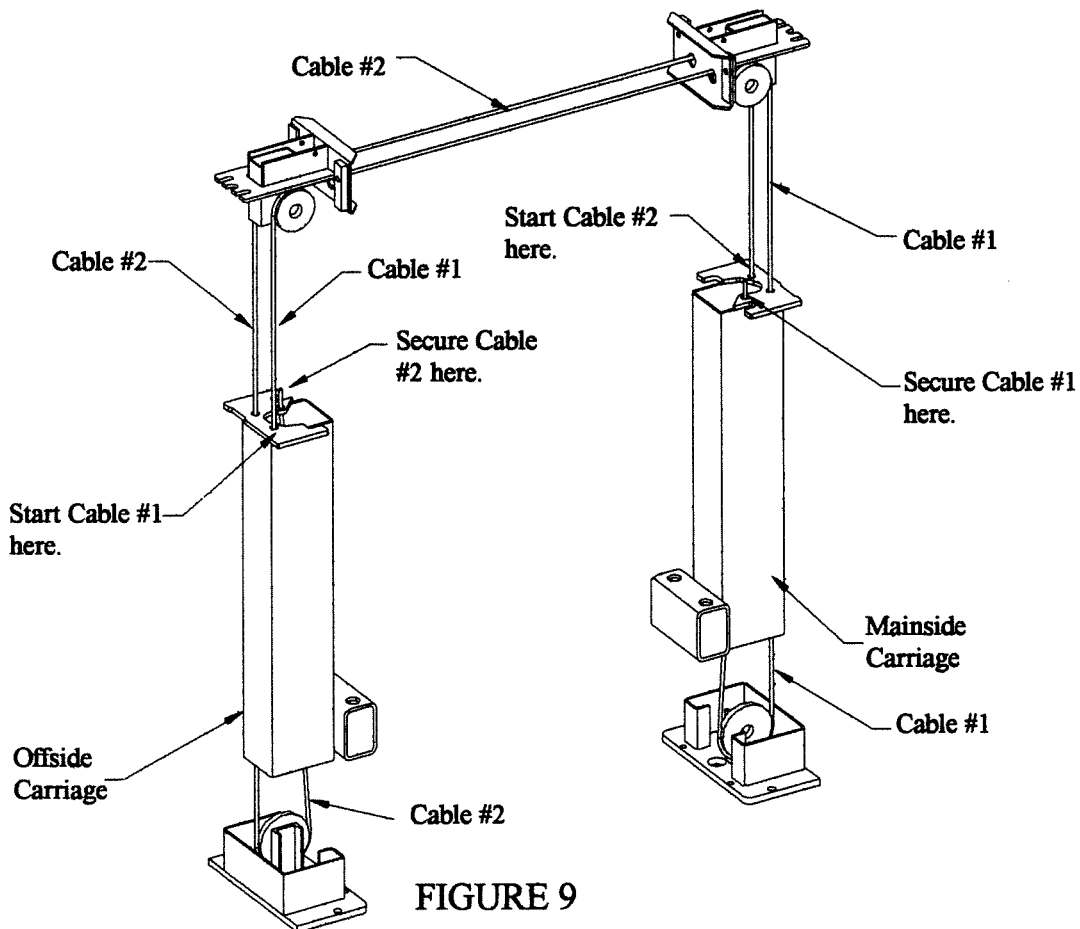

FIGURE 9
16. Refer to Figure 9 for installation of carriage cables. Assemble a 3/4" NF nylon insert nut with a SAE washer onto one end of each cable. Start at the left rear hole at the top of the offside carriage. Thread the cable up through the hole in the carriage top, up to the overhead pulley, across to the other overhead pulley on the mainside through the holes in the cylinder mount weldment, down through the right rear hole in the carriage top, around the pulley in the leg bottom, and up to the right